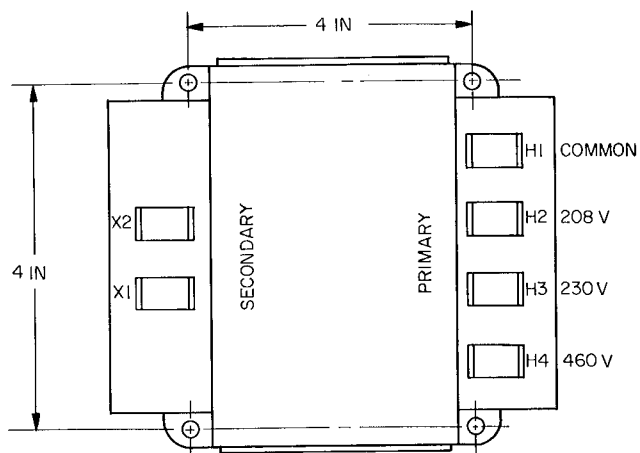

Fig. 22 — Transformer Terminal Arrangement
3. Connect primary side of transformer to unit power terminal block TB1. Connect terminal 21 of TB1 to terminal H1 of transformer and terminal 22 of TB1 to proper H terminal of transformer, according to required voltage. See Fig. 22.